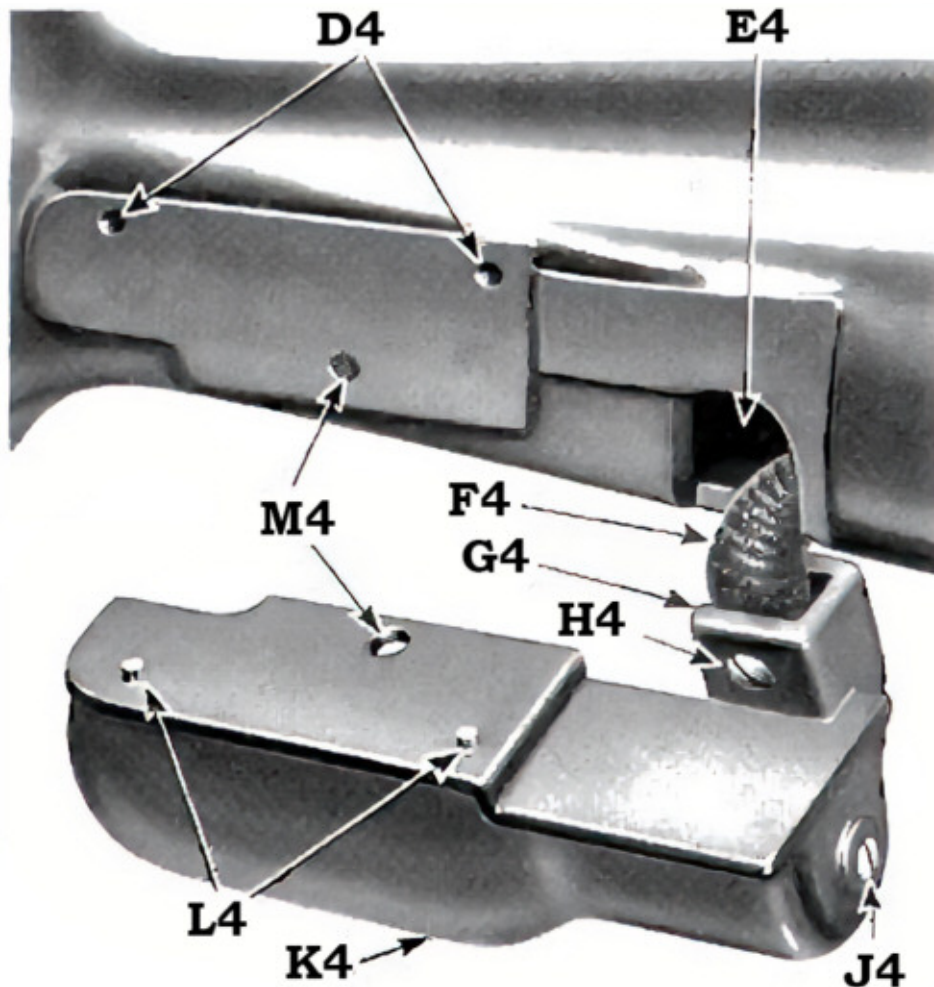
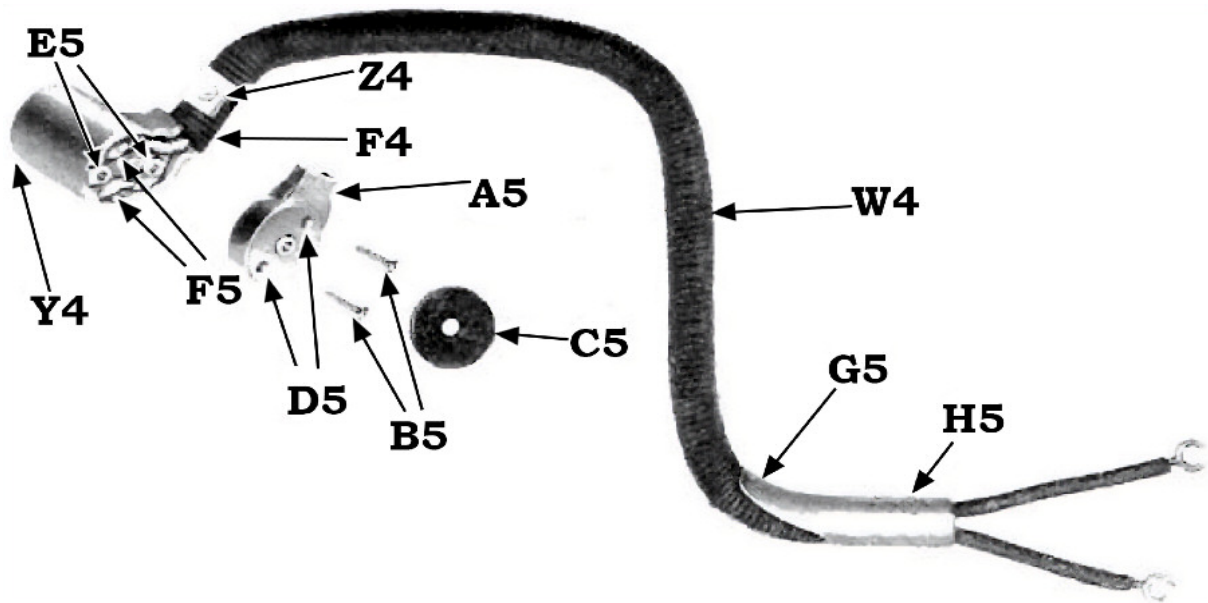
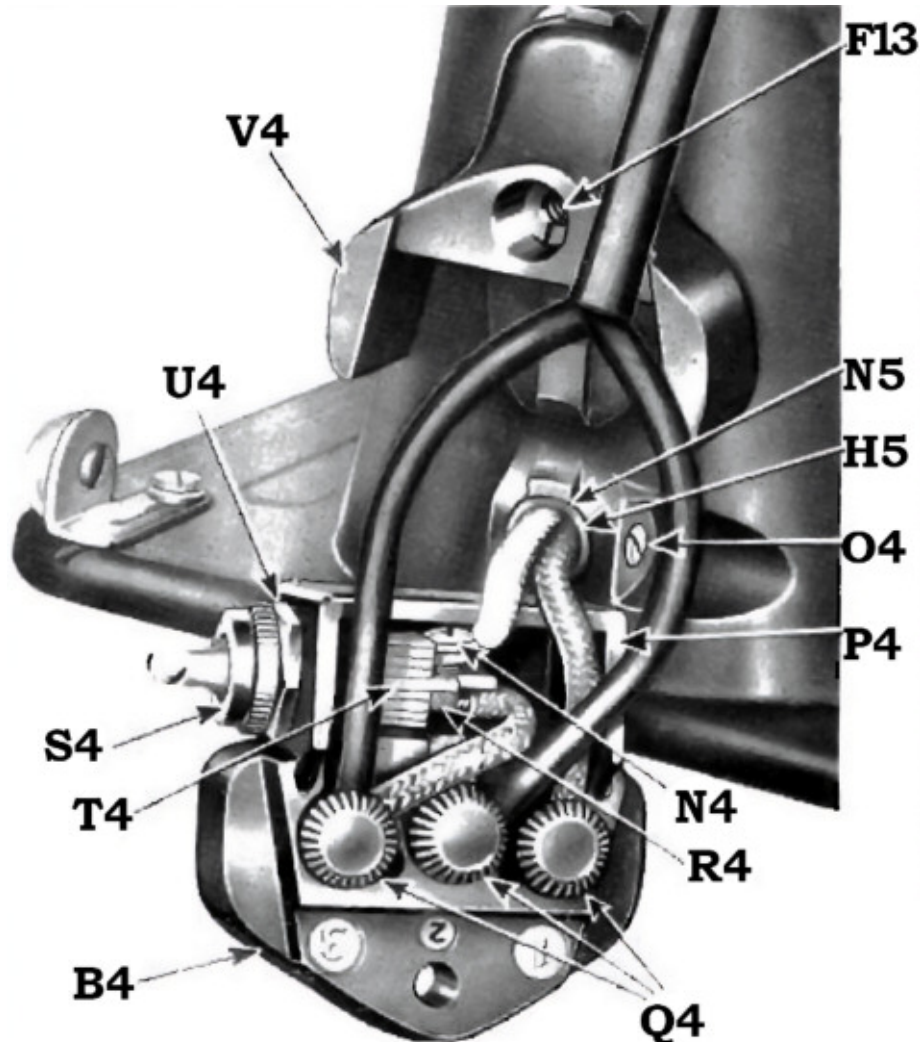
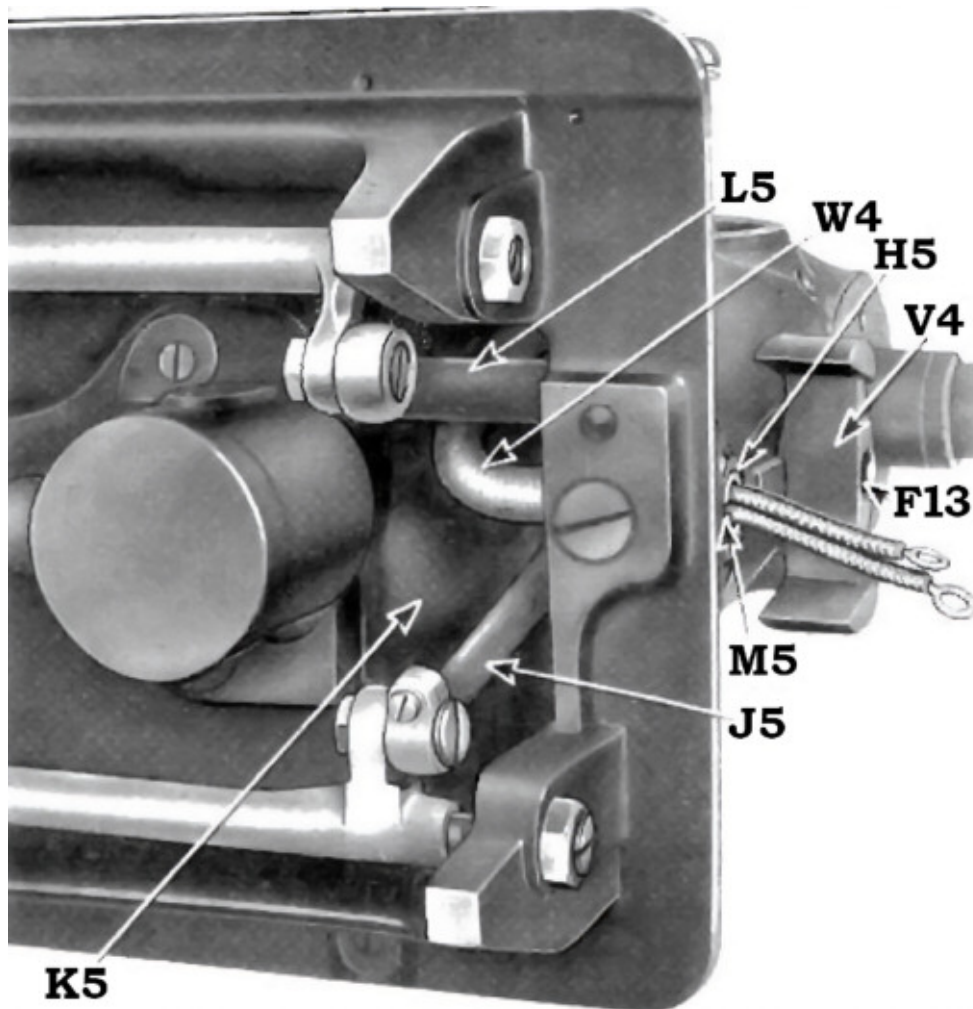

FIG. 8. SINGERLIGHT REMOVED FROM MACHINE 201-2
FIG. 9. SINGERLIGHT DISASSEMBLED - LEADS
FIG. 10. THREE-PIN TERMINAL DISPLACED FROM MACHINE ARM
FIG. 12. SHOWING POSITION OF THE SINGERLIGHT LEADS
Inspect the connections at the three thumb nuts (Q4, Fig. 10). See that they are screwed down firmly to insure tight connections. Each of the three pins is
provided with a washer. See that this washer is, in each case, placed above the wire or wires before tightening the thumb nuts (Q4, Fig. 10).
from the three-pin terminal, nor is it necessary to remove the leads from the machine arm. It is necessary, however, to remove the complete Singerlight from the machine as shown in Fig. 8, by removing the screw at (M4, Fig. 8), after which the Singerlight can be disassembled as follows:
**Remove Singerlight Shade—Machine 201-2.** With the Singerlight removed as shown in Fig. 8, remove the screw (J4) which fastens to Singerlight socket (Y4, Fig. 9) in the base of the Singerlight shade. The Singerlight shade (K4) is then easily slipped from the upper end of the leads tube and the lamp socket by withdrawing the shade to the right.
**Inspect Singerlight Connections—Machine 201-2.** With the Singerlight shade removed as instructed on the preceding page, take out the two screws (B5, Fig. 9) which fasten the Singerlight socket cap (A5) to the socket body. Carefully inspect the two soldered connections (F5) to make sure that they are tight.
Remove the Three-Pin Terminal as instructed on page 13. Disconnect the yellow Singerlight lead from Pin No. 1 of the three-pin terminal, and disconnect, at Pin No. 3, the red lead which is soldered to the Singerlight switch (T4, Fig. 10).
Loosen set screw (O4, Fig. 10) to release the clamp (H5, Figs. 9 and 10) which holds the three-pin terminal end of the leads tube (W4, Fig. 11) containing the Singerlight leads.
The position of the tube (W4) can be observed conveniently through the opening (X4) uncovered by the removal of the stitch indicator plate. The plate is removed by taking out the two screws by which it is fastened to the machine arm. The lower end of the tube (W4) can be observed through the opening (K5, Fig. 12) in the bed of the machine.
With the Singerlight completely disassembled, as shown in Fig. 9, insert the tube (W4, Figs. 9 and 12) with the clamp (H5, Figs. 9 and 12) in place thereon, into the Singerlight seat opening (E4, Fig. 8) in the machine arm, and move the tube (W4) containing the Singerlight
leads back toward the balance wheel, at the same time keeping the tube (W4) at the front side (toward the operator) of the horizontal arm shaft in the machine arm; then, reaching through the opening (X4, Fig. 11), guide the tube (W4) downward while keeping this tube at the front side (toward the operator) of the upright arm shaft as shown in Fig. 11. While guiding the tube (W4) downward toward the leads opening at the three-pin terminal seat, keep this tube to the left of the feed connecting rod (L5, Fig. 12). From this point downward, the tube (W4) is guided by reaching through the opening (K5) in the machine bed. Guide the tube (W4) downward and to the left of the connecting
rod (L5) and then to the right and between the connecting rod (L5) and the feed forked connection (J5, Fig. 12); then insert the clamp (H5, Figs, 9 and 12) in its opening (N5, Fig. 10) just below the three-pin terminal bracket (V4, Fig. 12) and with its outer end about flush with the outside surface of the machine arm, and with the split (M5, Fig. 12) down to bring the curved side (G5, Fig. 9) up toward the top of the machine so that the curve (G5) will conform to the upward bend of the tube (W4, Figs. 9 and 12). Also make sure that the tube (W4) is positioned so that it will not obstruct any of the moving parts such as the connecting rod (L5, Fig. 12) and the feed forked connection (J5, Fig. 12), etc.
When the leads tube (W4) is correctly positioned in the machine arm, and the clamp (H5) is properly inserted in its opening, as shown in Fig. 12, securely tighten the clamp set screw (O4, Fig. 10).
Attach the Singerlight white lead to the screw connection (N4, Fig. 10) of the Singerlight switch (T4, Fig. 10) and place the switch (T4) in the switch housing (P4, Fig. 10) of the three-pin terminal, then push the screw nipple (into which the switch handle is fastened) through the opening for this purpose in the side of the switch housing. The screw nipple is not shown in these illustrations, as it is concealed by the thumb nut (S4, Fig. 10) and hexagon lock nut (U4, Fig. 10).
Be sure to put the switch (T4, Fig. 10) in the housing (P4, Fig. 10) with the screw connection (N4, Fig. 10) on the side of the housing (P4) farthest from the three thumb nuts (Q4) as shown in Fig. 10. Place on the screw nipple, now protruding through the side of the switch housing (P4), the hexagon lock nut (U4) and tighten it, and then put the thumb nut (S4) in place on the screw nipple and tighten this thumb nut.
Fasten the short red lead (which is soldered to the switch at (R4) as shown in Fig. 10) to pin No. 3 of the three-pin terminal (B4, Fig. 10) and fasten the yellow Singerlight lead to Pin No. 1 of the three-pin terminal.